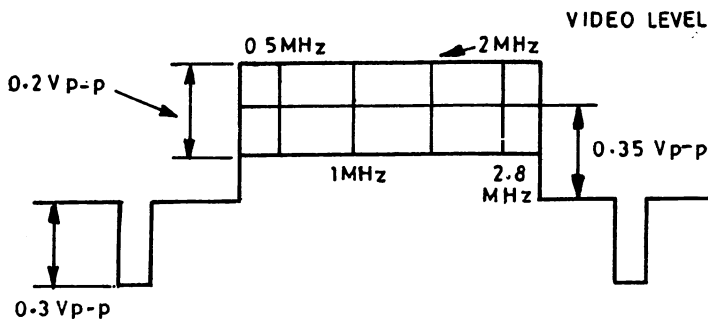

Fig. 11.19
2. Set the output level of the sweep generator as given in figure 11.19